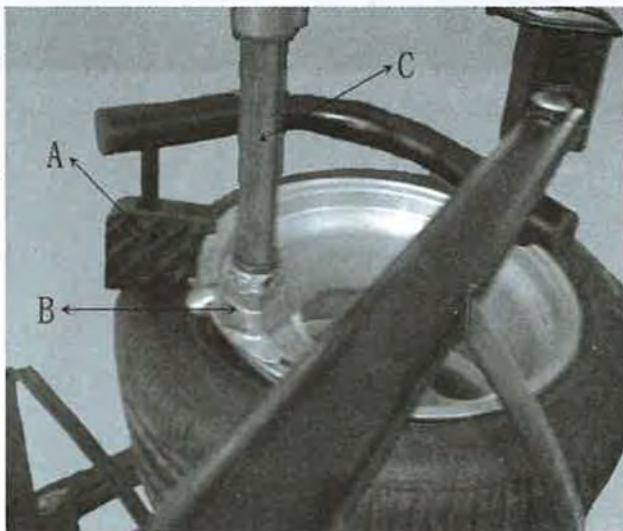

Fig 7-12
7.2.3 Use the press (fig7-12 A) to press down the tire section by section rim detached from the mouth and use the brush to spread the lubricant on edge of the lip. Position the demount tool head (fig7-12 B) in the demount position. Place the press beside of the demount tool to press down the lip and insert the crowbar below the demount tool in between the rim and lip (fig7-13), Lift up the press and move it to the position opposite to the demount tool and press the lip into the tire detach groove and then rotate the crowbar to lift the lip onto the demount tool (fig7-14). Rotate the turntable to detach the upper lip.